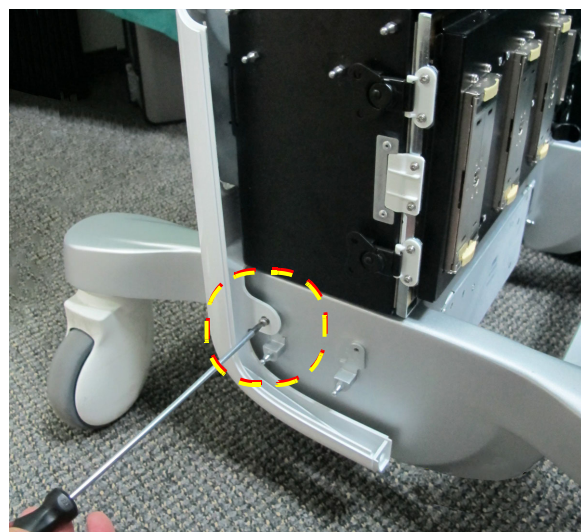

Figure 8-17 Right Rear Cover - Removing Securing Screws
Note: The right rear cover is secured to the base of the mechanical platform by two screws: one at the top of the cover; one through a securing tab on the inner right side of the cover (Figure 8-17).
- 3) Remove the screw from the top bracket of the cover (Figure 8-17, left).
- 4.) Remove the screw from the securing tab on the bottom inner right side of the cover (Figure 8-17, right).
- 3) Return the screw (previously removed) to the securing tab on the inner right side of the cover and tighten securely - Figure 8-17, right.
- 4) Return the screw (previously removed) to the top bracket of the cover and tighten securely Figure 8-17, left.